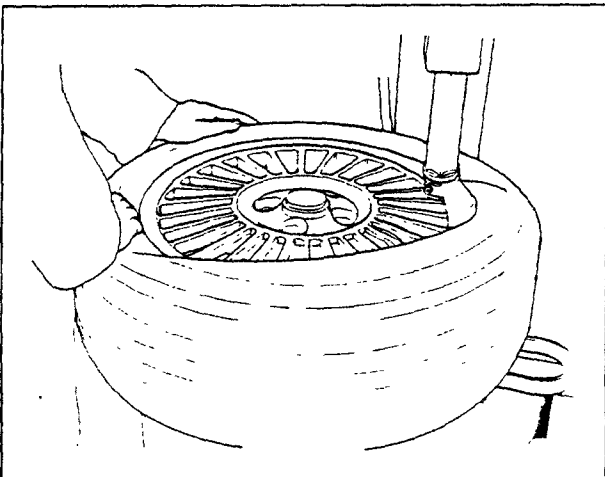

Fig.13
G. Rotate the turntable clockwise and at the same time push down on the tire sidewall to move the bead into the drop center of the rim (fig.13).